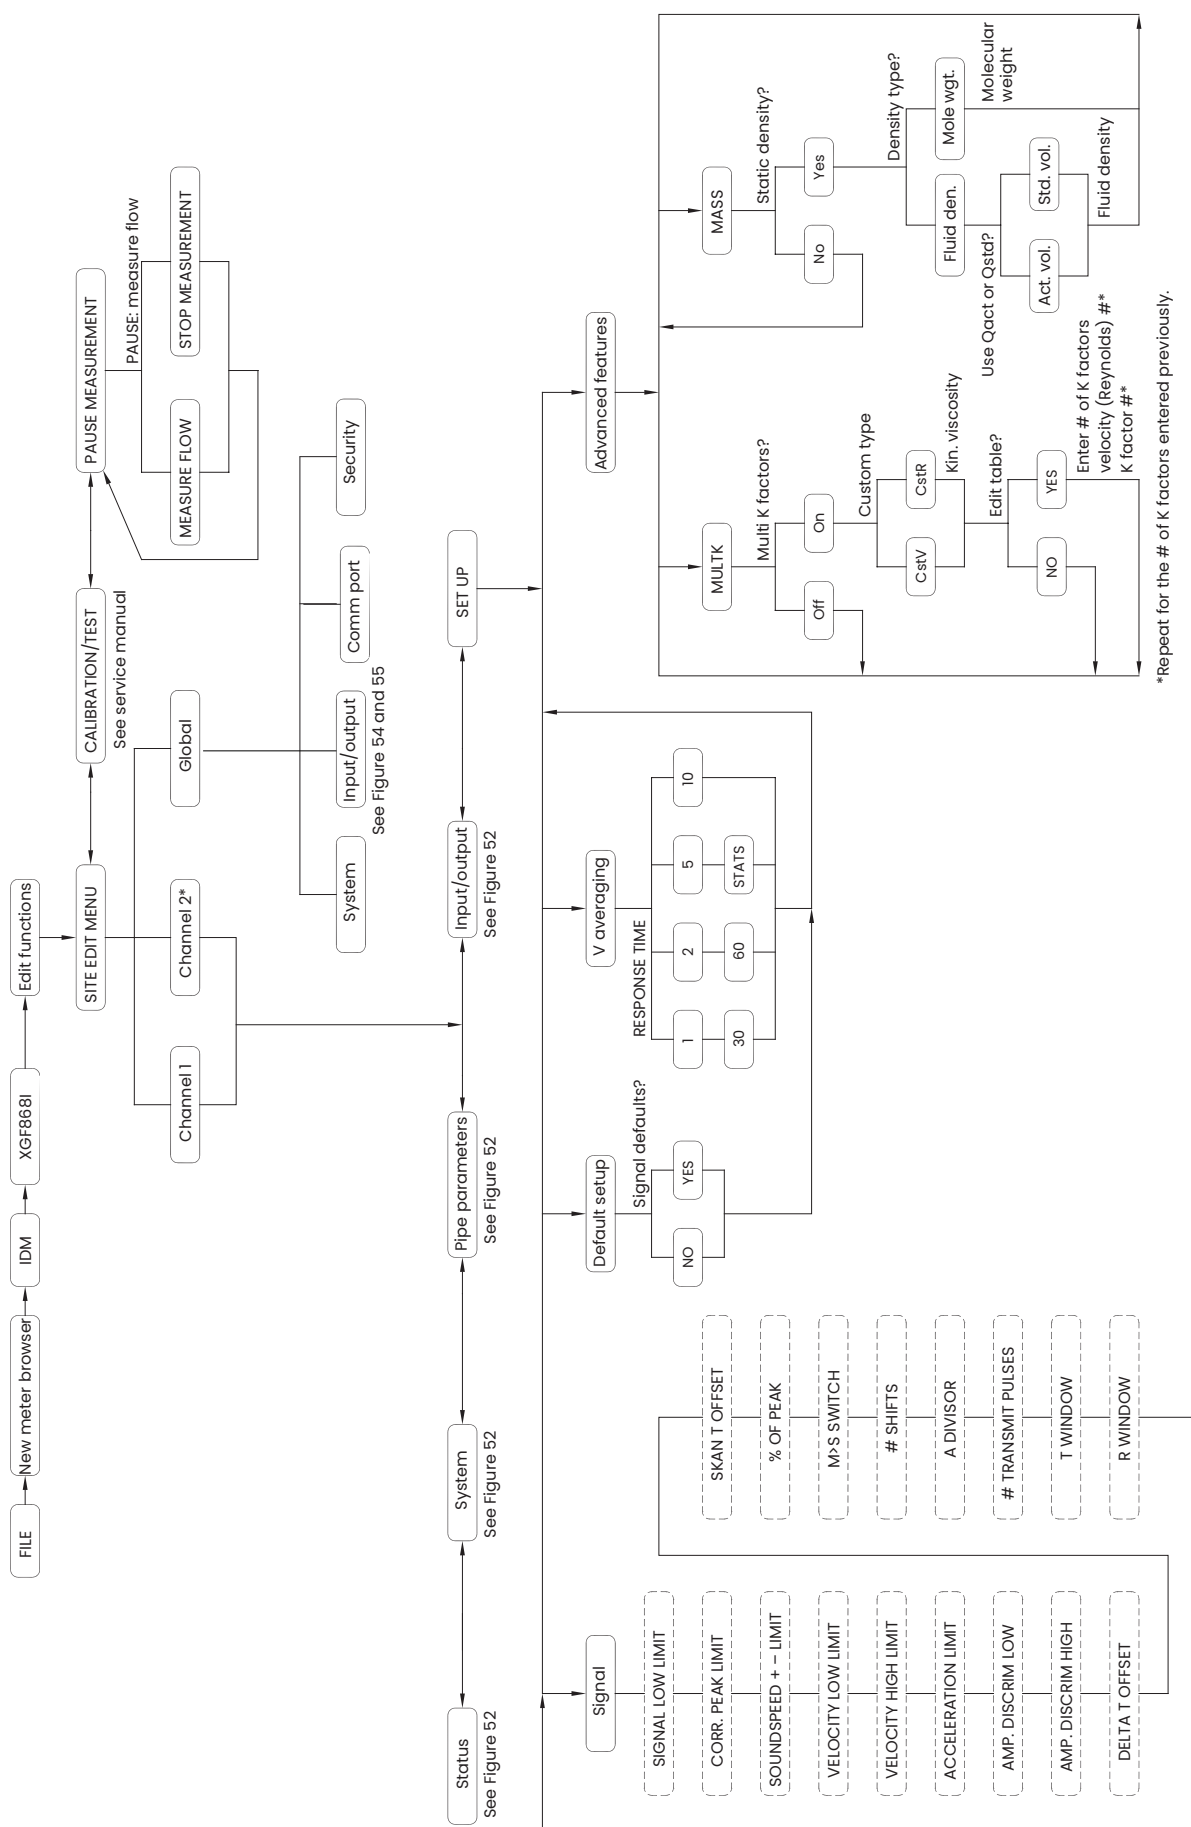

Figure 56: PanaView PROG > CHx > SETUP menu
- *Figure 56 on page 81, "PanaView prog > CHx > SETUP menu,"*